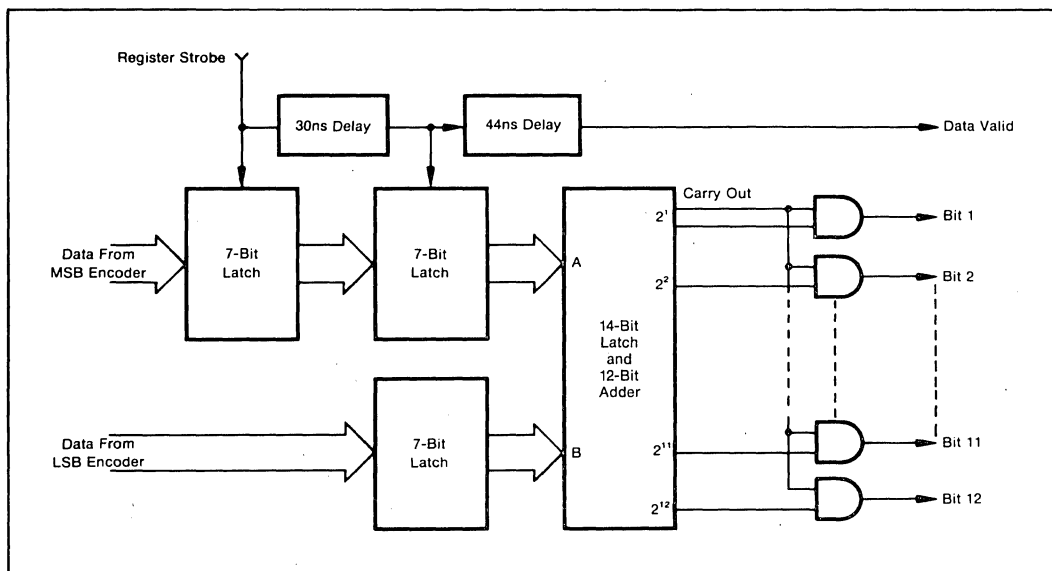

FIGURE 4. Block Diagram of Digital Error Corrector.
The function of the digital error correction circuitry (Figure 4) is to assemble the 7-bit words from the two flash encoders into a 12-bit output word. In addition, the circuit uses the LSB flash encoder strobe to generate timing strobes for both data registers. A data valid (DV) pulse is also generated which is used to indicate when output data can be latched into an external register. This DV pulse is delayed 5ns after the output data has settled